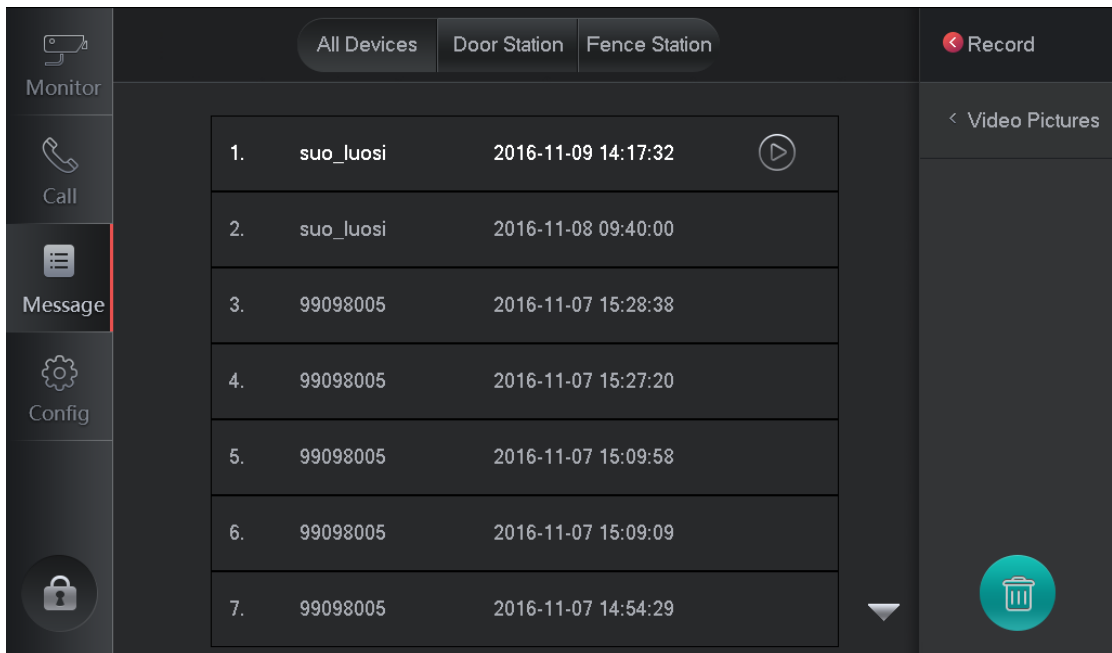

Figure 4-9
Step 1. Select Message> All Devices>Record. See Figure 4-9.